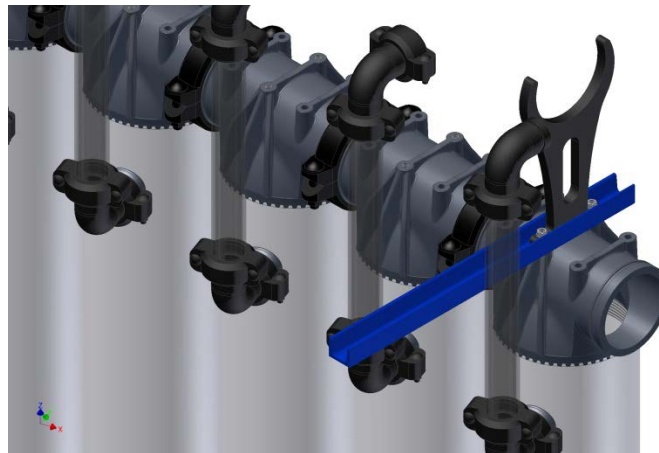

Figure 10-25: Fastening the top cross brace in place
7. Insert two threaded pins (M10 x 50) in the points provided on the T-pieces of the two outermost modules of the row. Fasten the top cross braces and the filtrate header holders in place by inserting the threaded pins in the holes provided for this purpose in the cross braces and the filtrate header holders. Fasten the cross braces and filtrate header holders to the two modules ensuring they are not under stress, as shown in Figure 10-25. At this stage it is sufficient to simply hand-tighten the nuts.